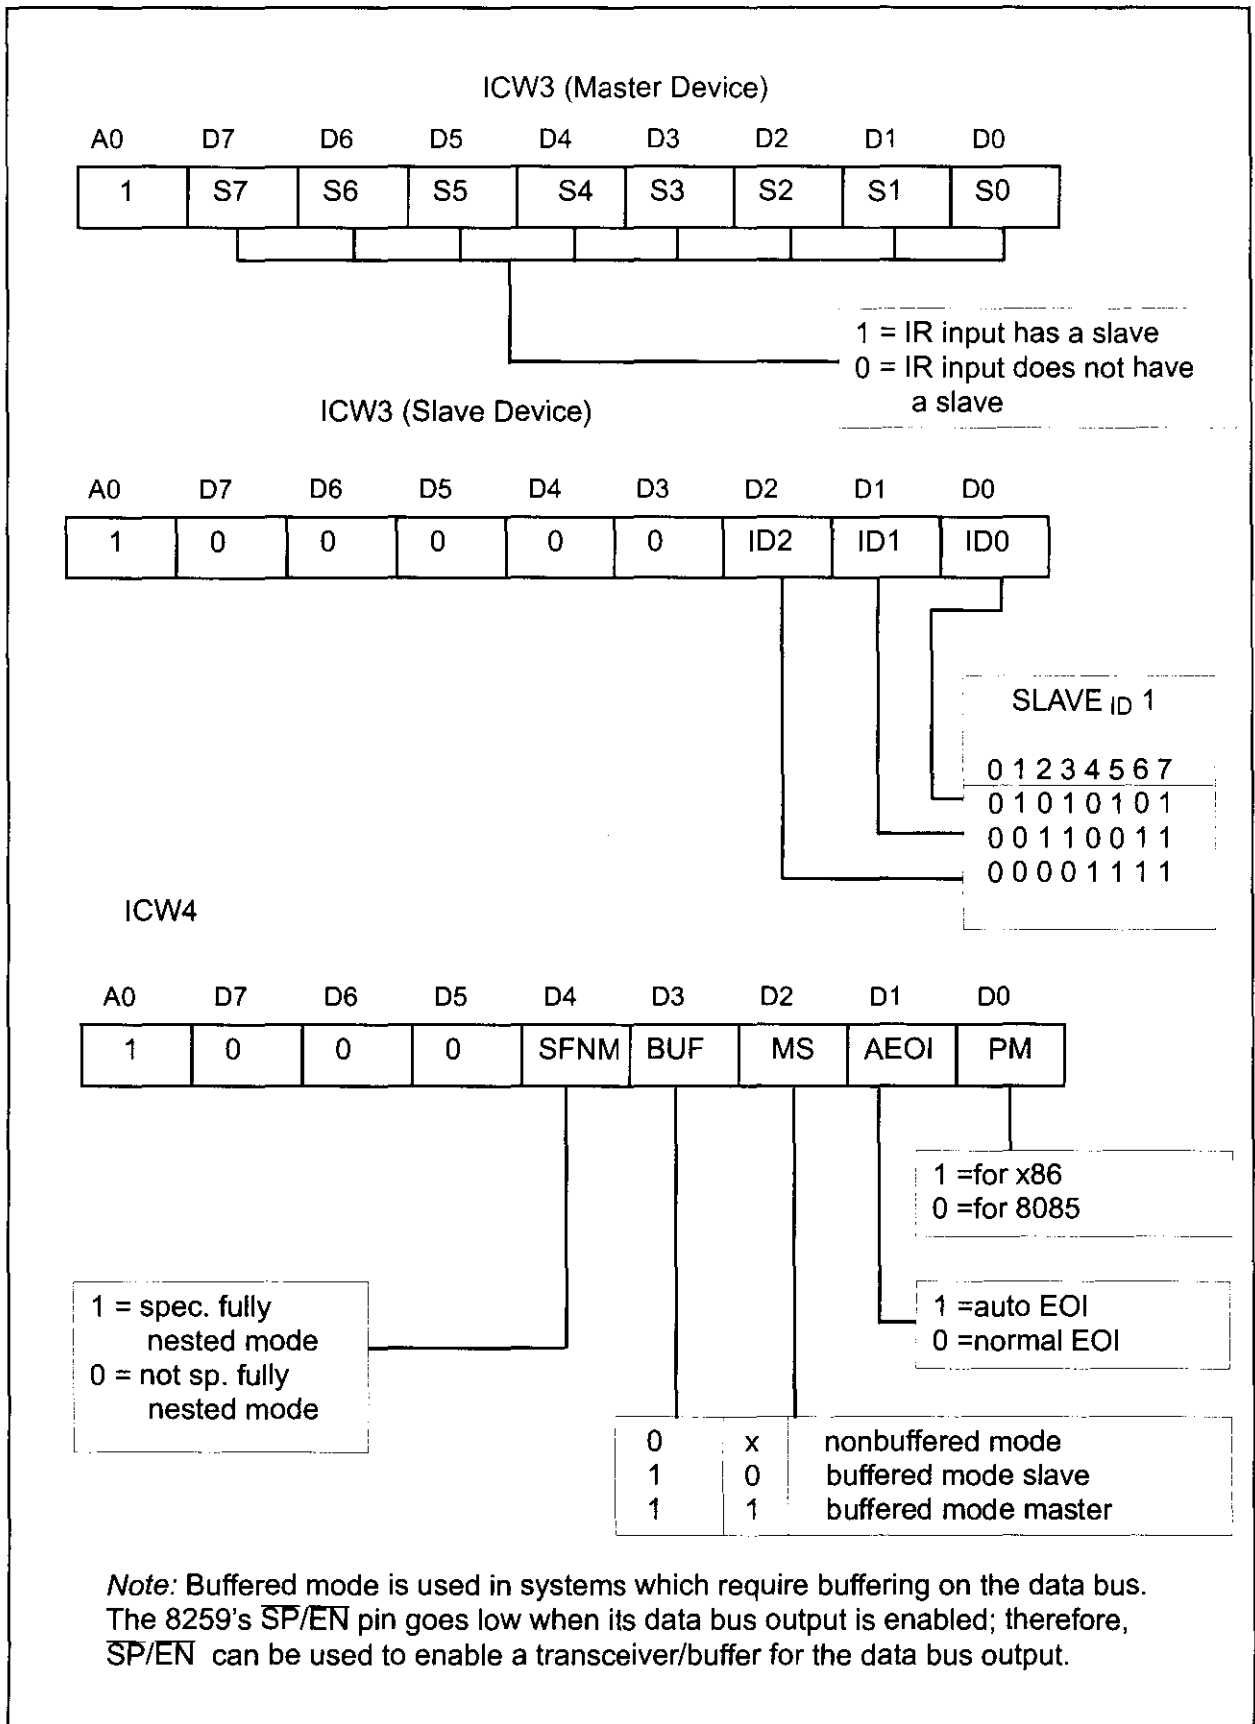

Figure 14-6. ICW Formats (ICW3 and ICW4) for the 8259
ICW3 is used only when 2 or more 8259s are cascaded. In this mode, a single 8259 can be connected to 8 slave 8259s, thereby providing up to 64 hardware interrupts. In cascade mode, there are separate ICW3 words for the master and the slave. For the master, it indicates which IR has a slave connected to it, and a separate ICW3 informs the slave which IR of the master it is connected to. See Figure 14-6.
D0 indicates the processor mode (PM), the choice of microprocessor. D0 equals 1 for the 8088/86 and 0 for the 8080/8085. When D1, which is AEOI (automatic end of interrupt), is high it eliminates the need for an EOI instruction to be present before the IRET (interrupt return) instruction in the interrupt service routine. When D1 is zero, the EOI must be issued using the OCW (operation command word) to the 8259. In other words, if D1 = 0, the last three instructions of the interrupt service routine for IR0 - IR7 must be issuing the EOI followed by IRET. The significance of this is discussed shortly when the OCW is discussed. D2 and D3 are for systems where data buses are buffered with the use of bidirectional transceivers. The 8259 can work either in buffered or nonbuffered mode. D4 is for SFNM (special fully nested mode). This mode must be used when the 8259 is in master mode and then D4 = 1; otherwise, it is 0. D5 - D7 must be zero, as required by the 8259. See Figure 14-6.